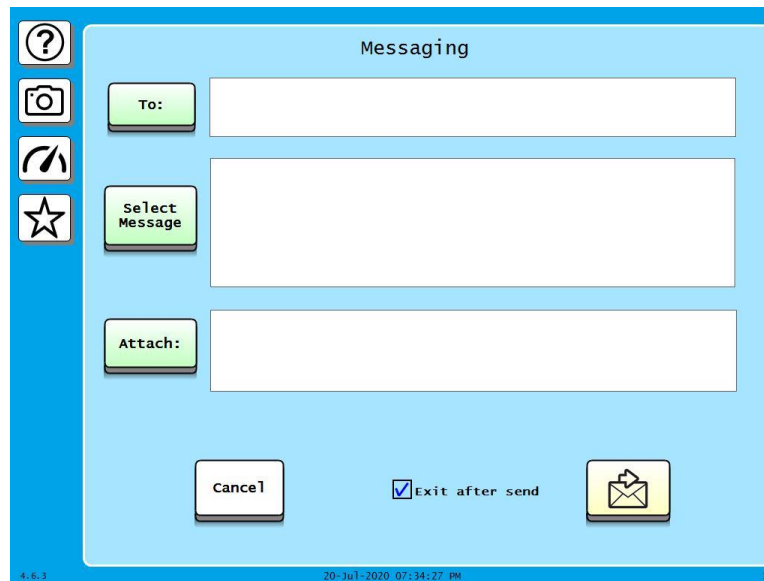

Figure 5-12. Messaging Screen
1. On the Run menu press **Messaging**. The Messaging screen appears, Figure 5-12. If you want to stay in the Messaging screen after sending, uncheck the box labeled **Exit after send**.